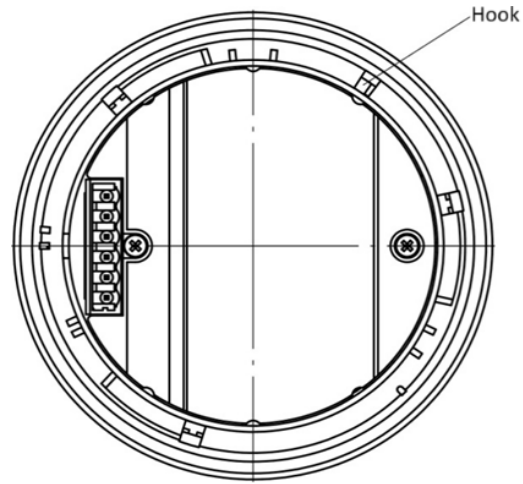

Fig. 6.1 View of the detector from below
The method of mounting and dismounting the detector is shown in Figs. 6.1 and 6.2. To disassemble the detector the given steps are required:
- a) pressing the catch (Fig. 6.1) and turning the guard in the basket clockwise until the guard is removed;